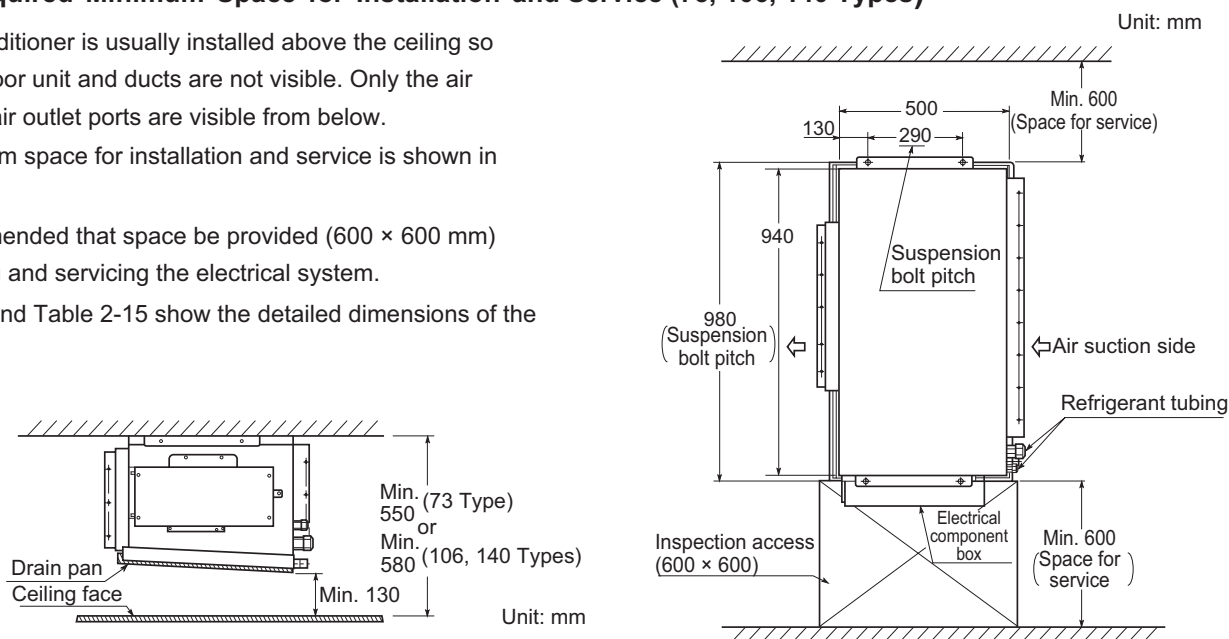

Fig. 2-109
- The minimum space for installation and service is shown in Fig. 2-109.
- (1) When placing the unit inside the ceiling, determine the pitch of the suspension bolts referring to the dimensional data given previously. (Figs. 2-109 and 2-110)